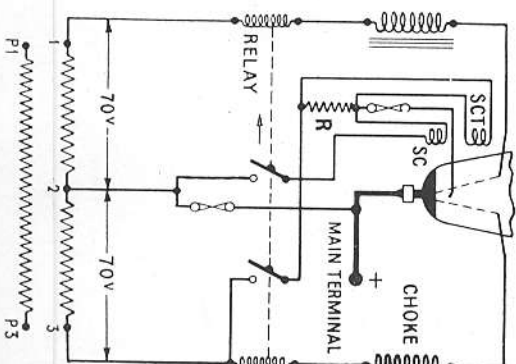

Fig. 15. The complete exciter circuit (running condition).
**Stage 3.** The free electrons resulting from this arc enable the exciter electrodes to strike up and remain energised. It will be seen from the diagram, Fig. 15, that the circuits to the exciter anodes pass through the coils of the starting relay, as well as the exciter chokes. As soon as the bulb is running on the exciters the relay operates, and isolates the starting coils and the starting electrode. This usually happens too quickly to be observed and is the normal running condition the whole time the rectifier is in service.